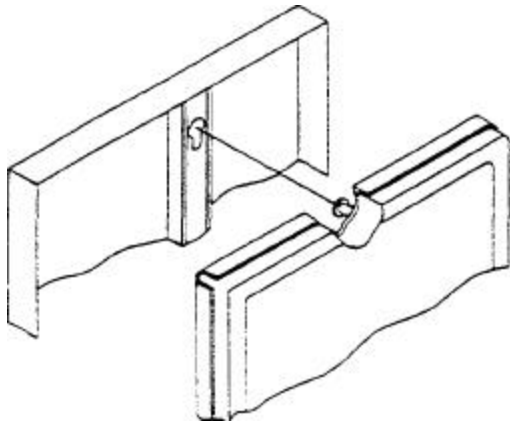

Figure 3-9. Door Gasket Assembly
- Remove the door gasket assembly (see Figure 3-9).